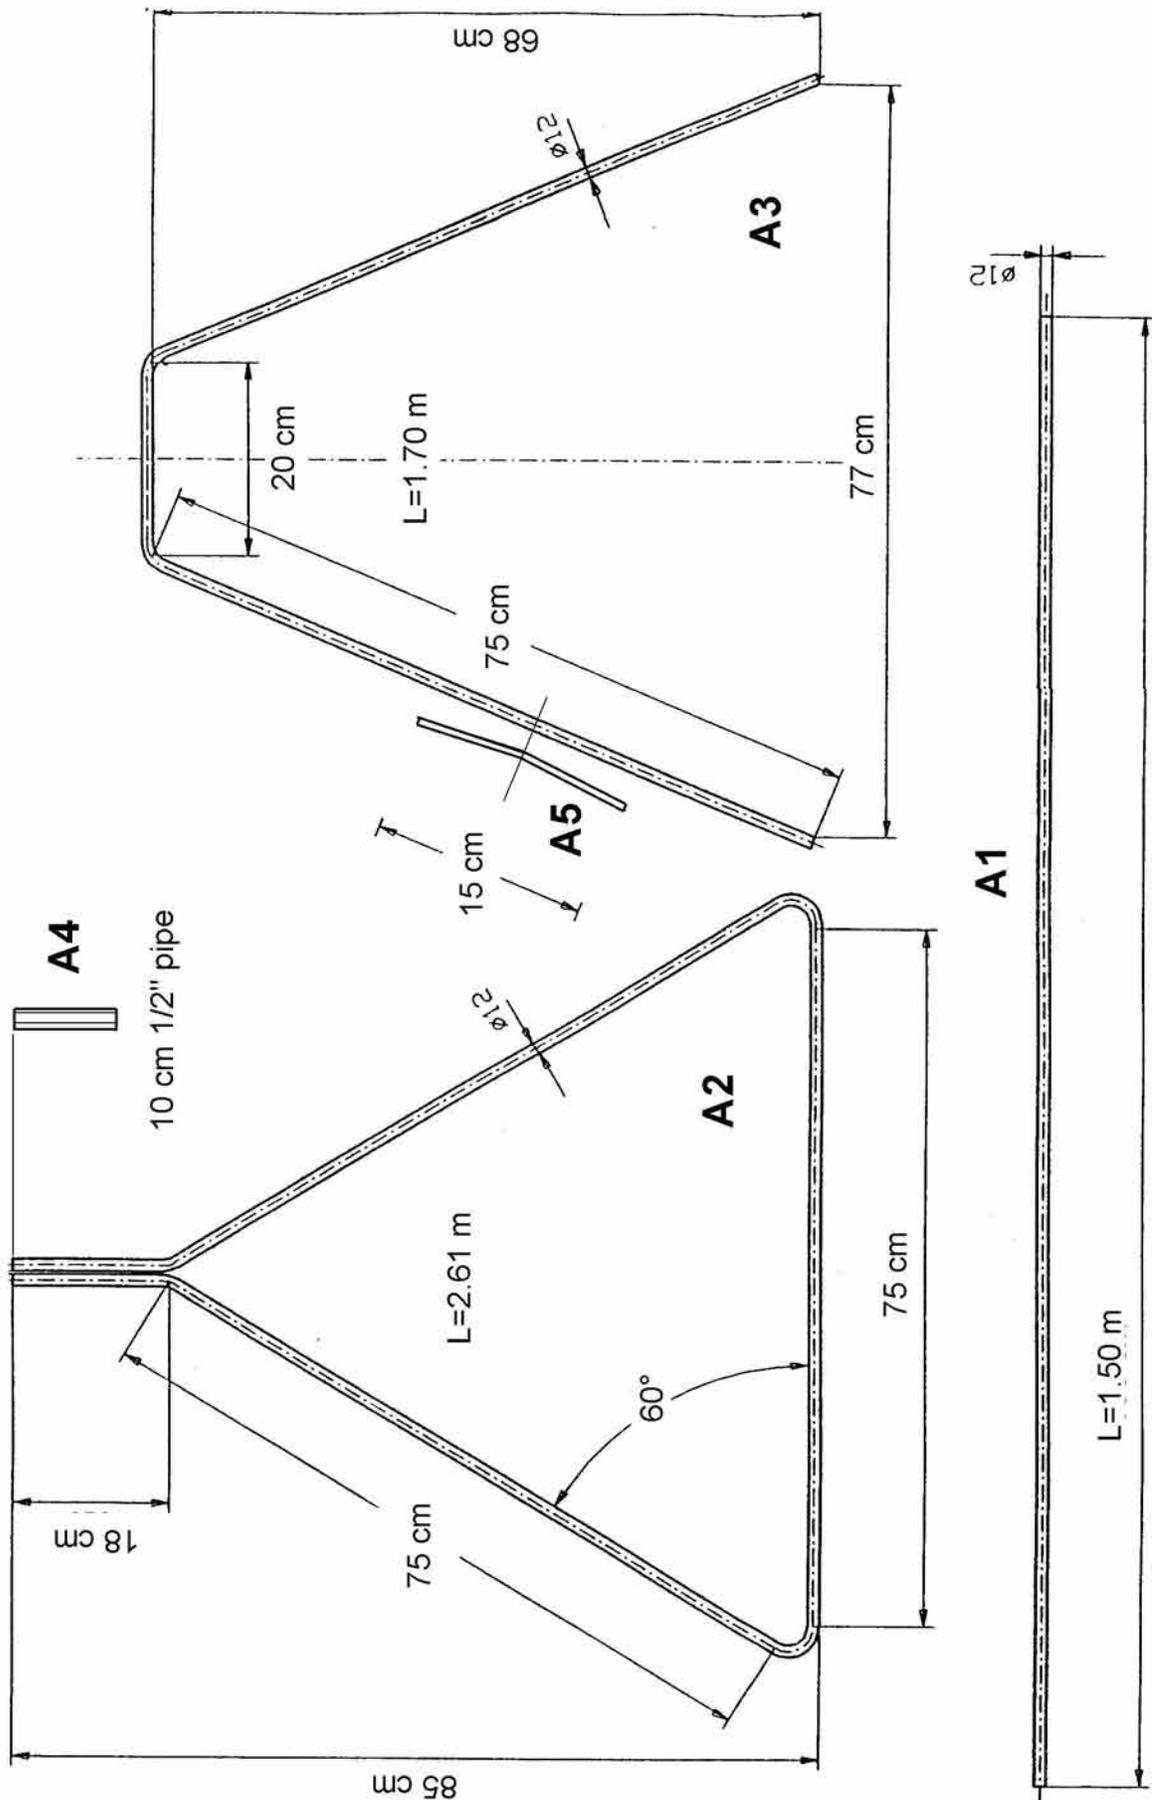

Figure 11: Parts A1, A2, A3, A4 and A5 needed for the cooker foot
1. Cut 2 straight pieces of \varnothing 12 mm material 1.5 m long. These are the parts A1 (see figure 11).
Bend first at the 37 cm points to get a triangle where the ends are crossing each other at the 111 cm points. then bend the short ends after the 111 cm point to be parallel and vertical to the base side of the triangle (see figure 11)
4. Cut 2 straight pieces for A3 of \varnothing 12 mm material 1.7 m long. Mark the two points 74 cm from the ends of the pieces and bend there both ends about 50 degree into the same direction so that the end points are 77 cm apart from each other (see figure 11).